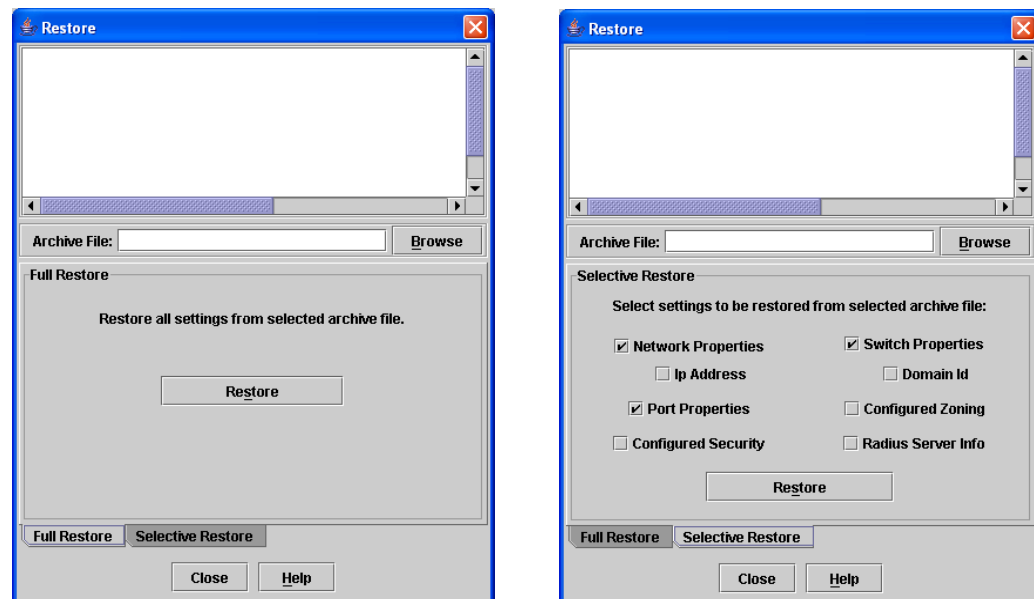

Figure 4-16. Restore Dialogs – Full and Selective
2. Open the Switch menu in the faceplate display and select **Restore** to display the Restore dialog shown in Figure 4-16. The Restore dialog offers a **Full Restore** and a **Selective Restore** tab.